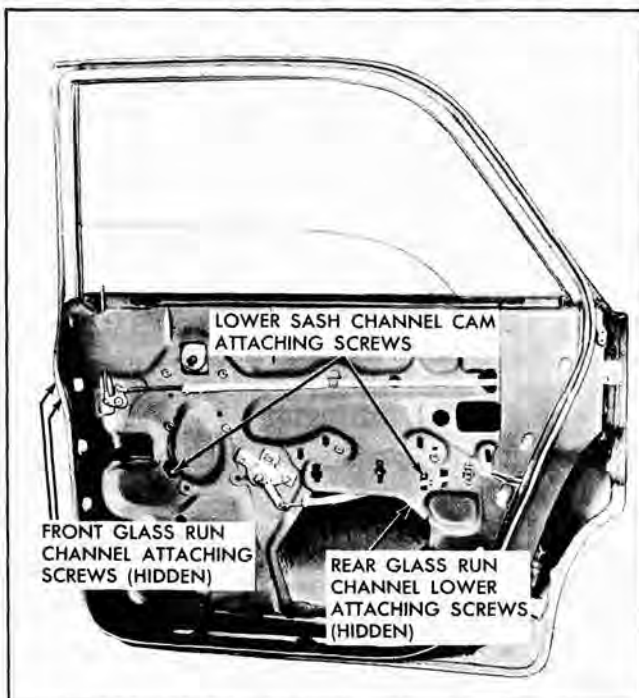

Fig. 3-37 Rear Door - "69" Style
2. On "35", "45" and "69" styles, through large access hole, remove screw securing lower end of glass run channel at door lock pillar and raise end of channel to expose lock assembly (Fig. 3-37).
3. On "35", "45" and "69" styles, through large access hole, remove screw securing lower end of glass run channel at door lock pillar to gain access to spring clip securing rod to lock (Fig. 3-37).
3. On "35", "45" and "69" styles, through large access hole, remove glass run channel lower attaching screw at lock pillar to gain access to spring clip securing rod to lock (Fig. 3-37).